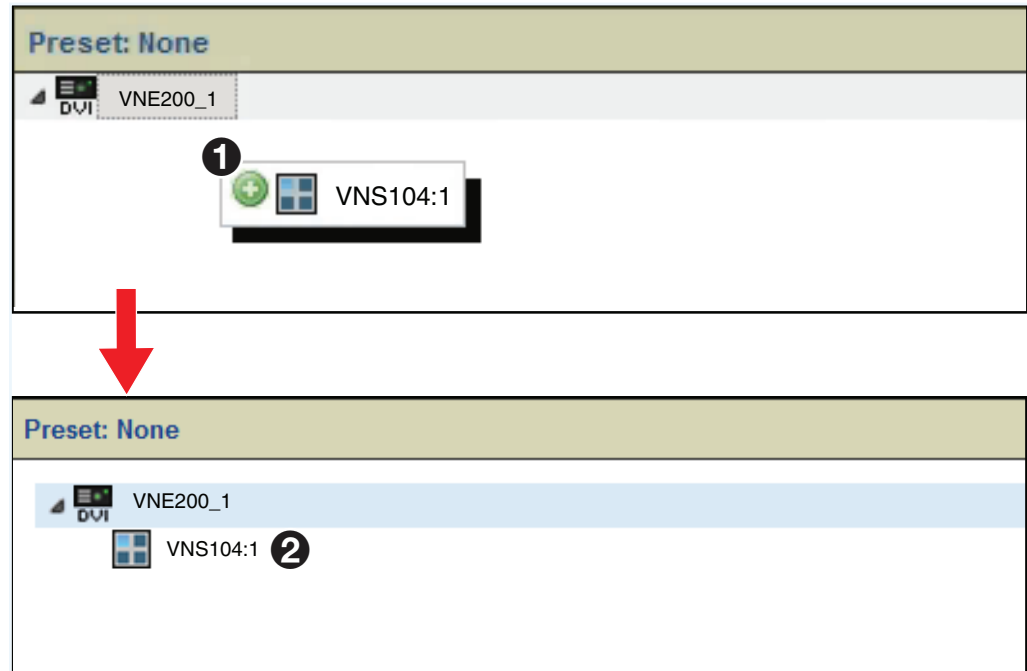

Figure 108. Presets, Drag and Drop the VNS 104
3. Drag one of the four software decoder channels from the **Device List** (see figure 108, ❶) and drop it onto the source device in the **Preset** panel (❷).